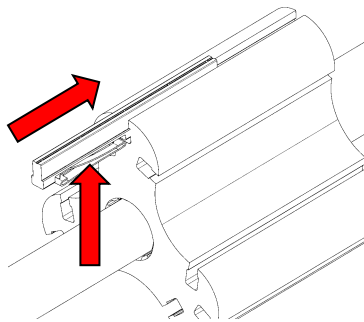

Figure 10
2. Slide the spring and vane into the, compressing the spring to ease it and the vane half the way into the slot, Figure 10.
3. For the FTS200, position the second spring in the vane cutout, and compress it, Figure 10.